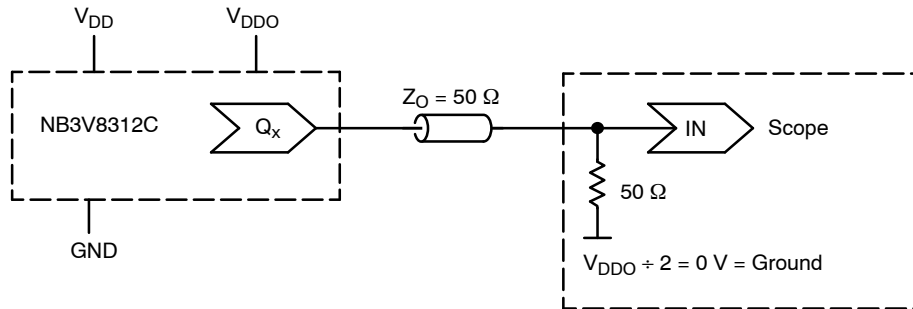

Figure 7. Typical Device Evaluation and Termination Setup – See Table 8
6. Outputs terminated  $50\ \Omega$  to  $V_{DDO}/2$  unless otherwise specified. See Figure 7.
7. Outputs loaded with 50  $\Omega$  to  $V_{\text{DDO}}/2$ ; see Figure 7. CLOCK input with 50% duty cycle; minimum input amplitude = 1.2 V at  $V_{\text{DD}} = 3.3$  V, 1.0 V at  $V_{\text{DD}} = 2.5$  V,  $V_{\text{DD}}/2$  at  $V_{\text{DD}} = 1.8$  V.